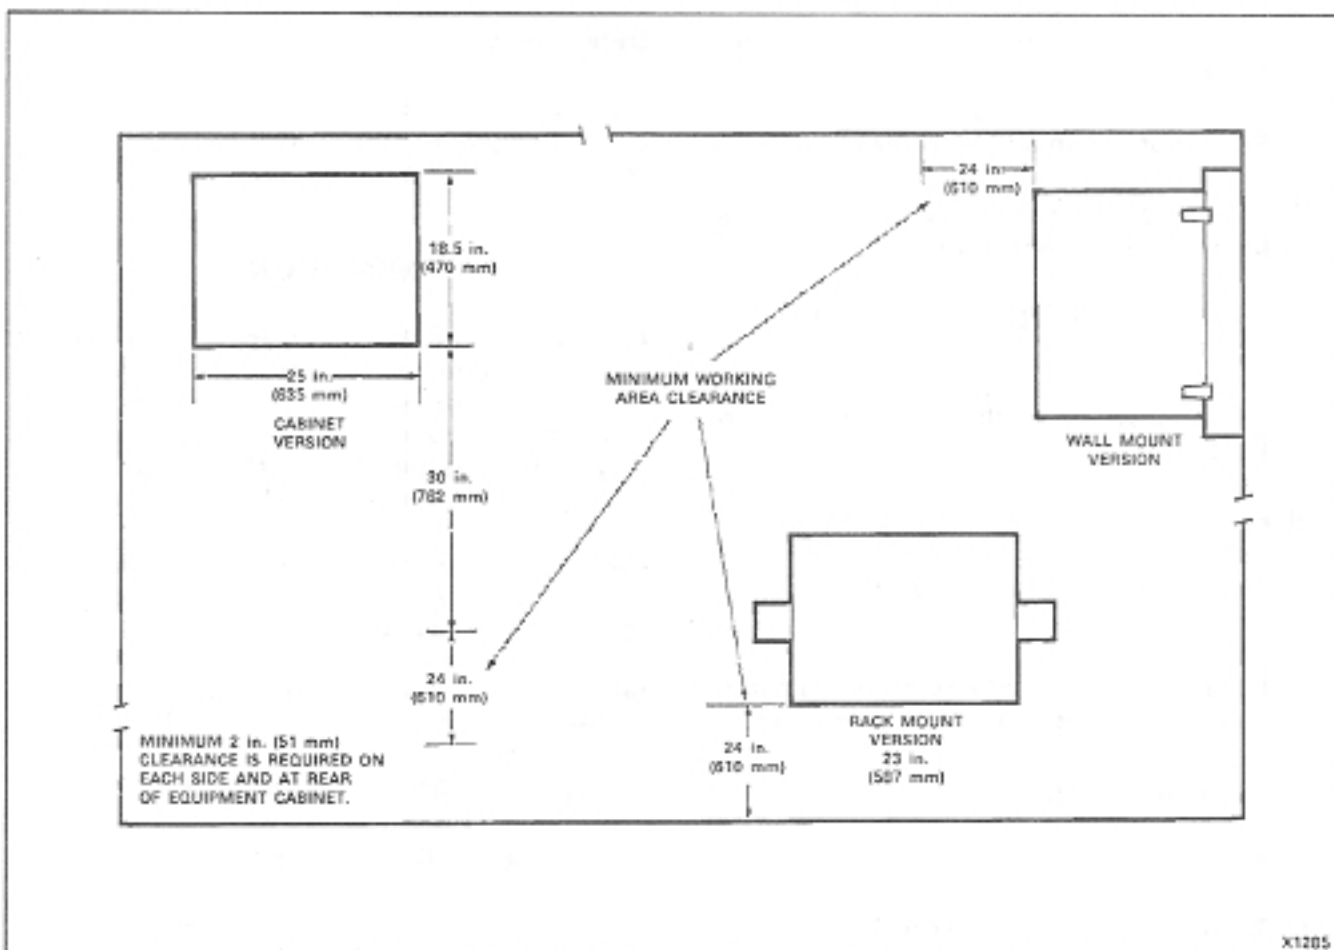

Fig. 9-1 SX-100 Minimum Equipment Cabinet Floor Space Requirements
**9.02** The minimum floor space for installation and subsequent maintenance of the SX-100 and SX-200 Electronic PABX's is shown in Figs. 9-1 and 9-2 respectively.